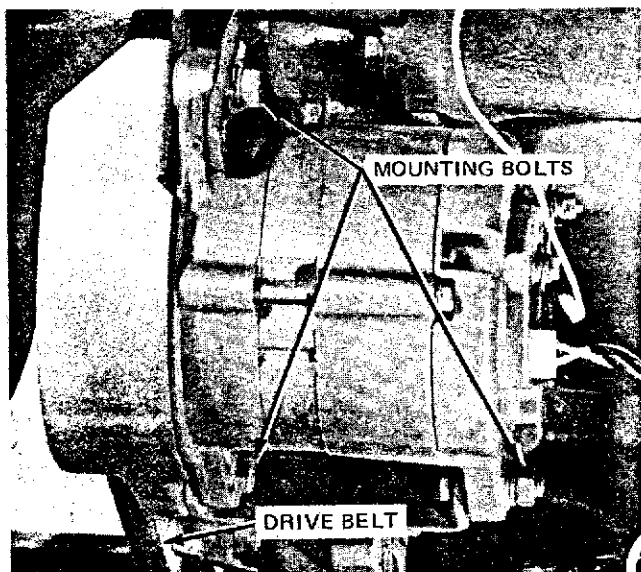

Figure 41 — Alternator Mounting Bolts
1. Loosen the alternator mounting bolts, Figure 41.